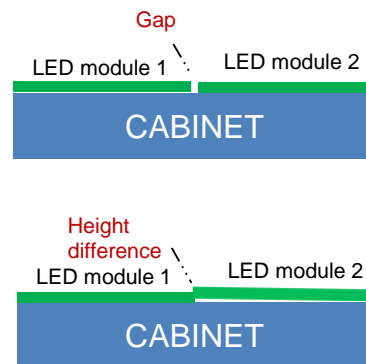

Fig.2 Gap / height difference
- ② Check for a gap or significant height difference between modules. (See Fig.2.)
- ③ If a gap is found, move the modules with hands, beginning from the outer modules.
- ④ If a significant height difference is found, disassemble the lower LED modules and adjust the height by turning the Holder-Magnet with an appropriate tool.